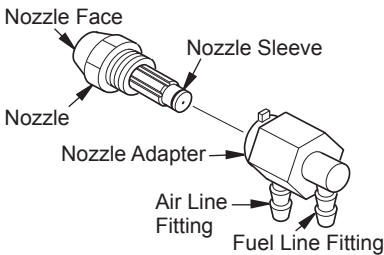

Figure 26 - Nozzle and Nozzle Adapter (100/150 Models)
5. Carefully remove nozzle from the nozzle adapter using 5/8" socket wrench (see Figure 26).